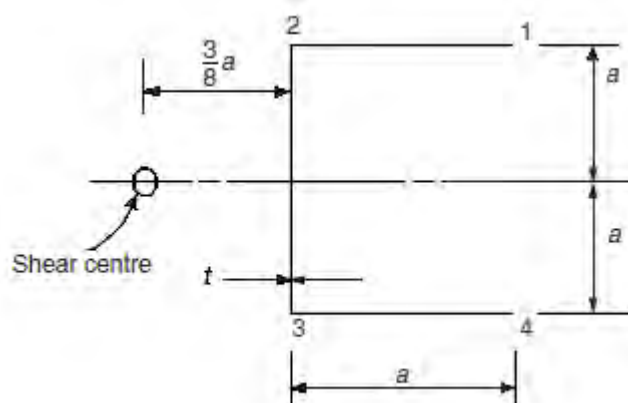

Figure 6:
6. A thin-walled cantilever beam of length L has the cross-section shown in Figure 6 and carries an anticlockwise torque T at its free end. Determine the torsion bending constant for the beam section and derive an expression for the rate of twist along the length of the beam. In a practical case the beam supports a shear load of 150N at its free end applied vertically upwards in the plane of the web. If $L = 500\text{ mm}$, $a = 20\text{ mm}$, $t = 1.0\text{ mm}$ and $G/E = 0.3$ calculate the value of direct stress at the point 2 including both axial constraint and elementary bending stresses. [16]